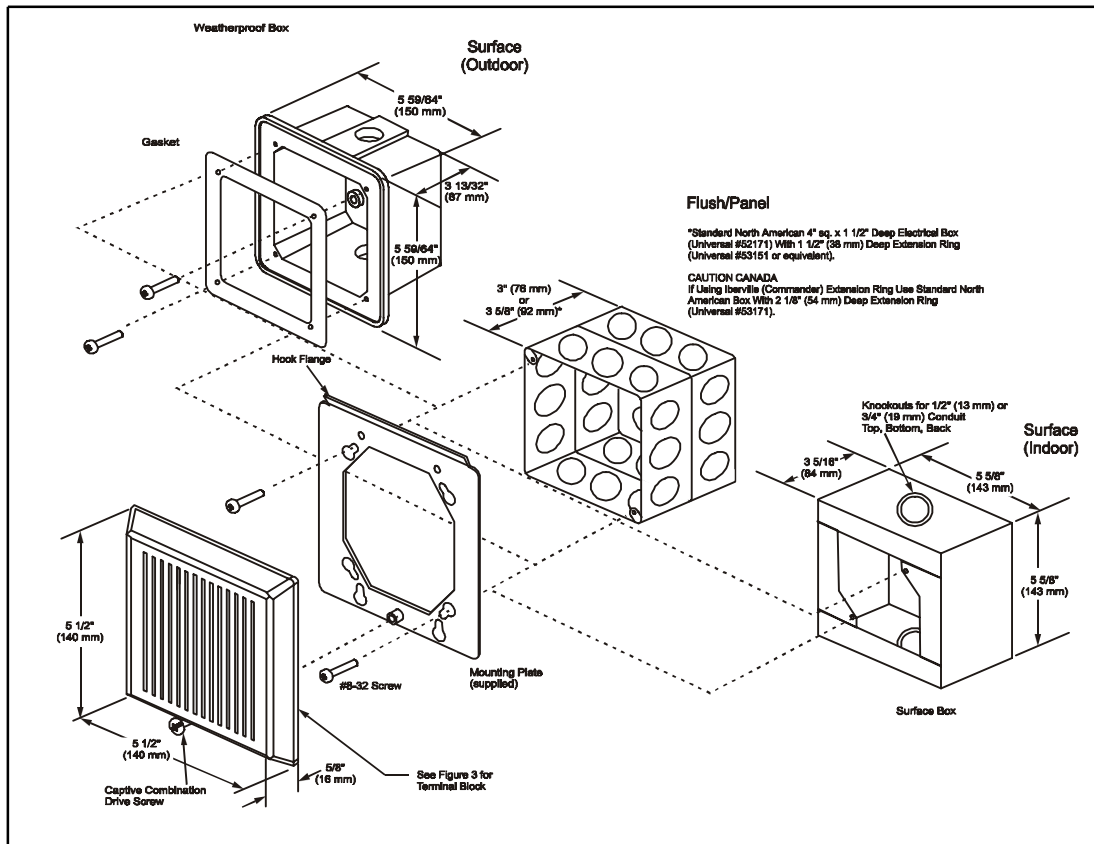

Figure 1. Mounting the Horn
See Table 2 and Figure 1 for specifications.
1. Select a mounting method as detailed in Figure 1 and install the electrical box using suitable hardware.
NOTE: Be sure hook flange is facing outward as shown in Figure 1.
5. Mount horn assembly on the mounting plate (Figure 1).